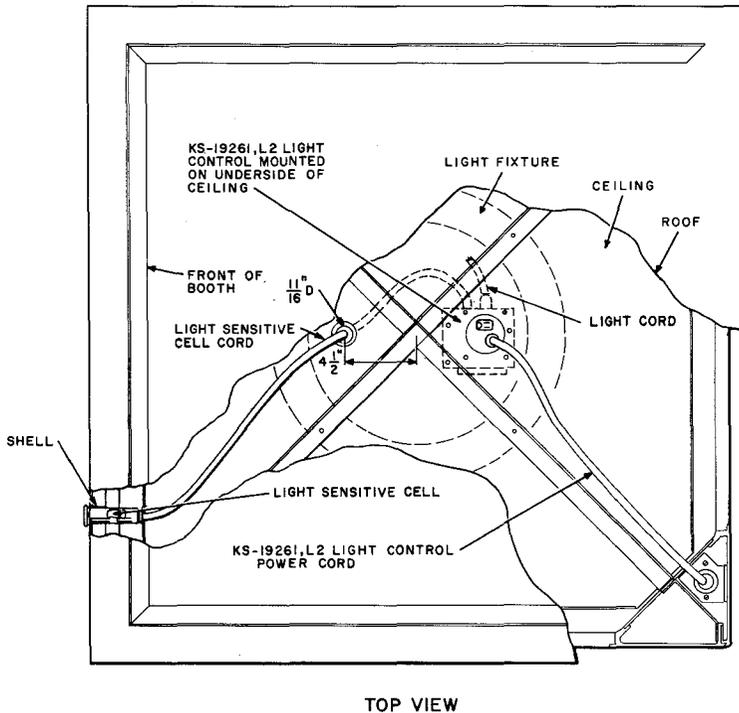

Fig. 12—Ceiling Layout of KS-14611 Booth (Top View)
- (g) Drill an 11/16-inch diameter hole down through ceiling 4-1/2 inches toward front of booth from center of cross braces (Fig. 12).